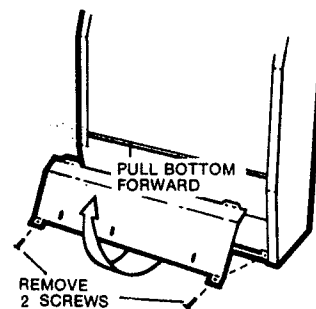

FIG. 4. REMOVING LOWER FRONT PANEL
**STEP 4.** Remove the lower front panel of heater by removing the two screws near the bottom corners and pulling the bottom of panel forward. (Figure 4)